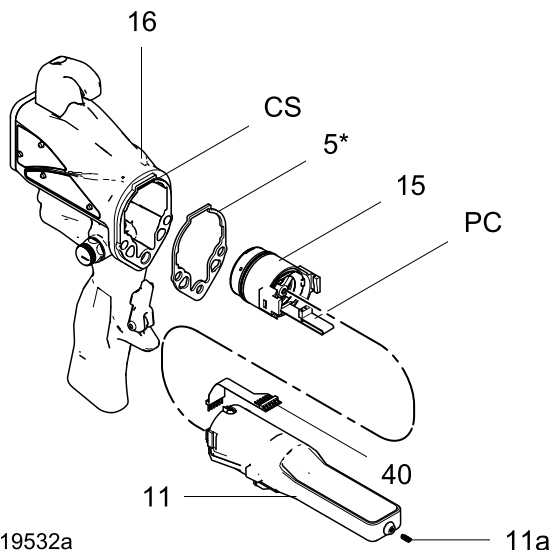
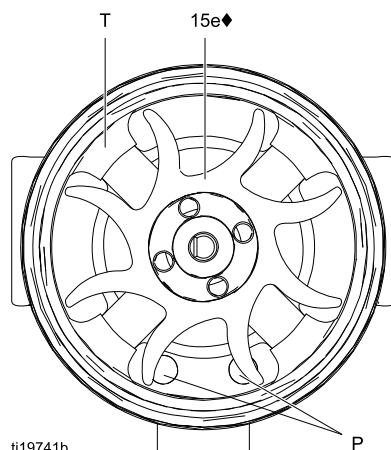

Figure 34 Power Supply
Figure 35 Fan Orientation
12. Hold the coil assembly (15a) on a workbench with the fan end facing up. Press the fan (15e♦) onto the long end of the shaft (S). The fan blades must be oriented as shown.
13. Carefully press the coil assembly (15a) into the front of the housing (15d♦). The 3-wire connector (PC) must be positioned below the wider notch (W) of the housing tabs, as shown in Fig. 35. Be sure the coil alignment pins (P) are positioned as shown in Fig. 34.
14. Rotate the fan (15e) so its blades clear the four bearing tabs (T) at the back of the housing. Ensure that the blades of the bottom bearing (15b1♦) align with the tabs.